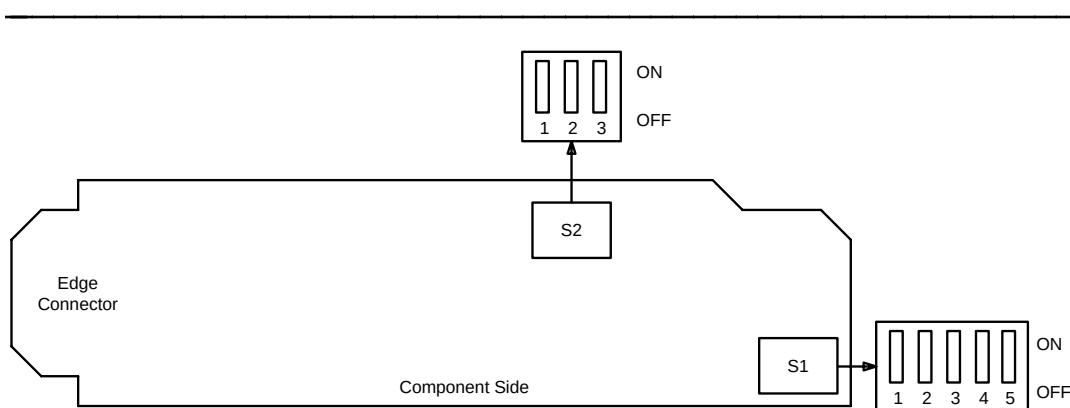

Figure 4. BBF2B TGS Option Switch
Determine timing mode from work order or office records. Refer to Table G and Figure 4 and set timing mode as required for **BBF2B TGS** circuit pack(s).
15. If the **BBF2B TGS** is provisioned for *sync out mode*, refer to Table H and Figure 4 and set equalizer switches for the proper cable length.
17. Refer to Table I and Figure 4 and set the DS1 line coding and frame format as required for the **TGS** circuit pack.